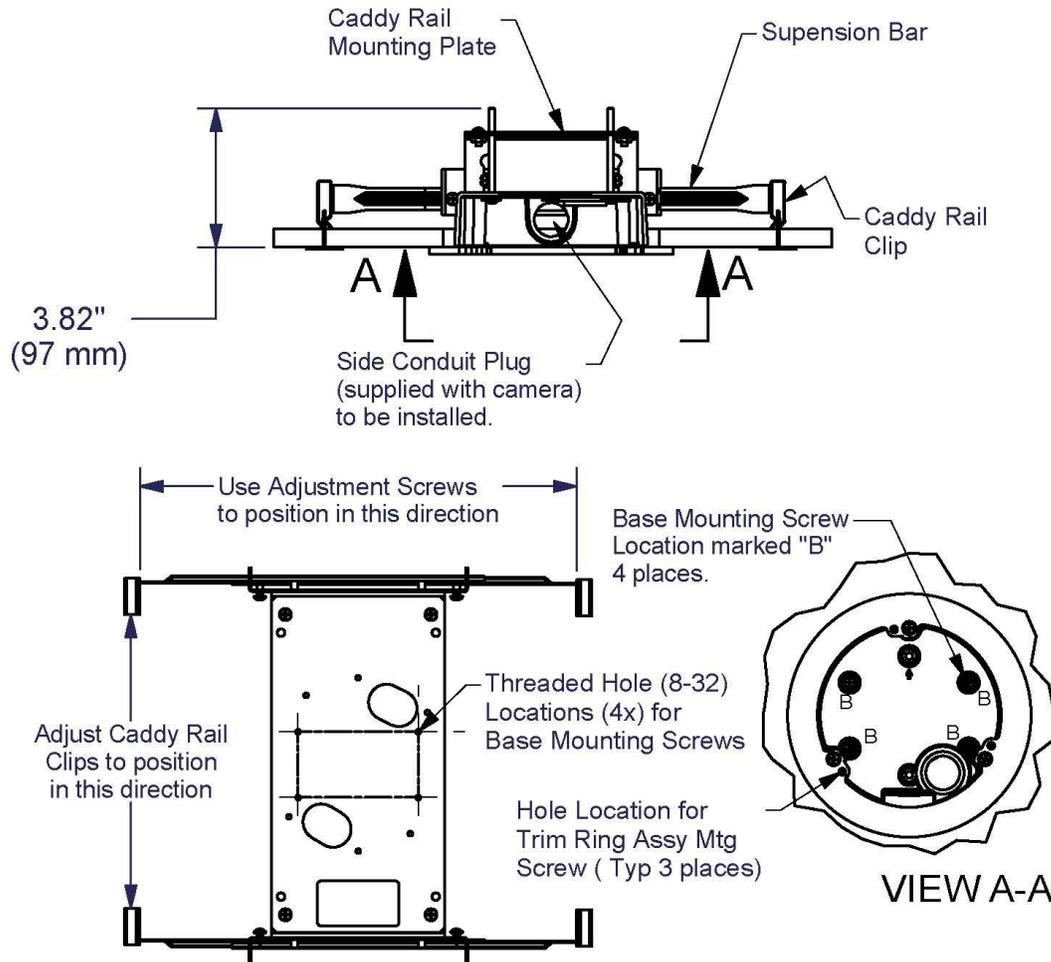

Figure 4
2. Remove the three (3) trim ring mounting screws from the lower dome and trim ring assembly and replace them with the three (3) M4x.7 captive trim ring mounting screws provided. These are shorter screws that provide proper attachment to the interface plate. Failure to do so may damage trim ring threads during removal from interface plate.
3. Install the interface plate onto the base of the V2000D with the three (3) M4 flat head screws provided.
6. Working from the adjacent tile area, position this rail/bracket assembly squarely over the hole and place the cut tile in the ceiling. Place the rail/bracket assembly over the hole and fasten the caddy rail clips to the existing frame. Refer to Figure 4.
8. Align the four mounting holes in the camera base with 8-32 holes provided on the caddy rail mounting plate (Figure 4) and secure the camera base to the mounting plate, using the supplied 8-32 x 2.5 fillister head screws. Tighten each screw a little at a time until the interface plate is snug to the ceiling. Do NOT OVERTIGHTEN screws.